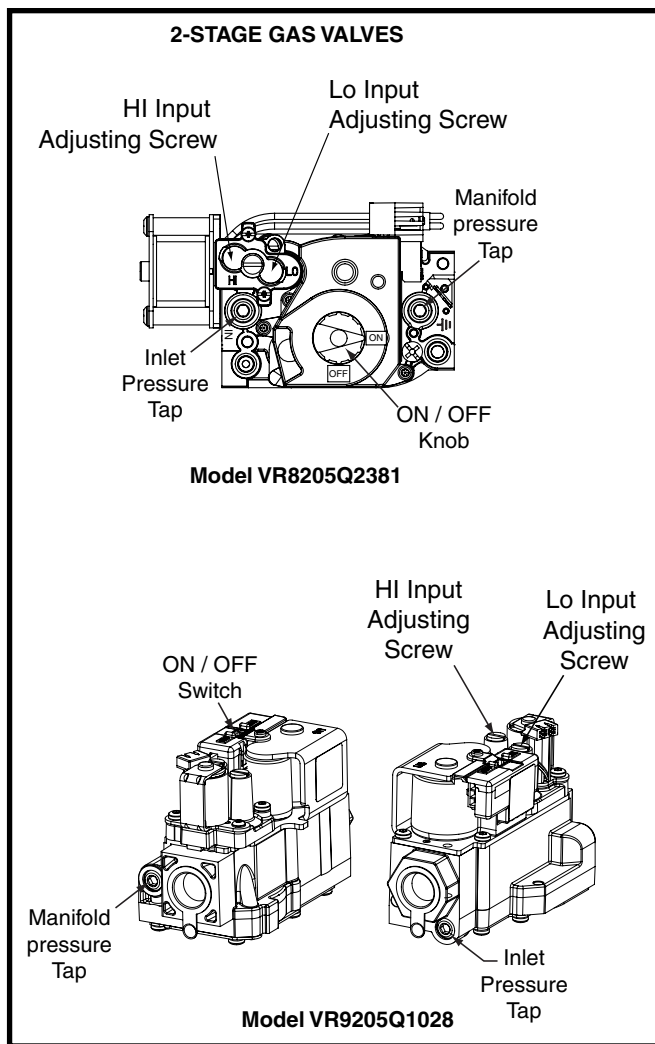

Figure 20. HI & LO Input Adjusting Screws
7. Remove the regulator capscrew from the INLET side of the regulator. See Figure 20, \(page 24\).